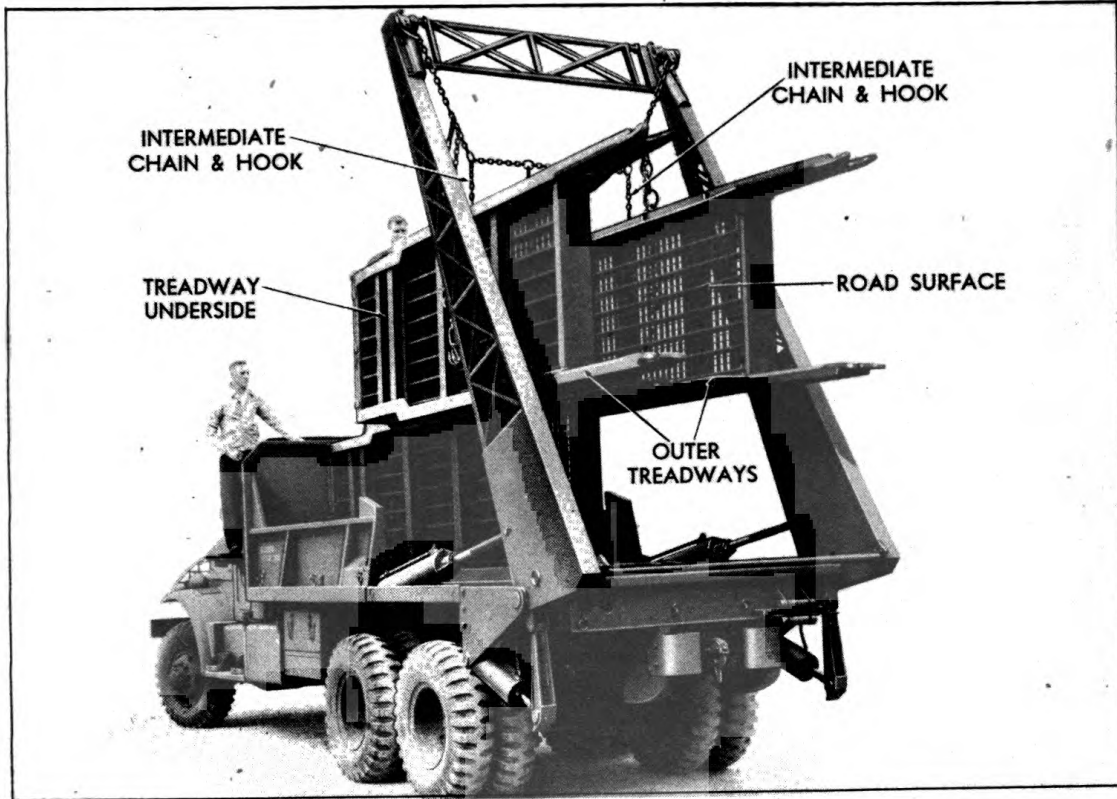
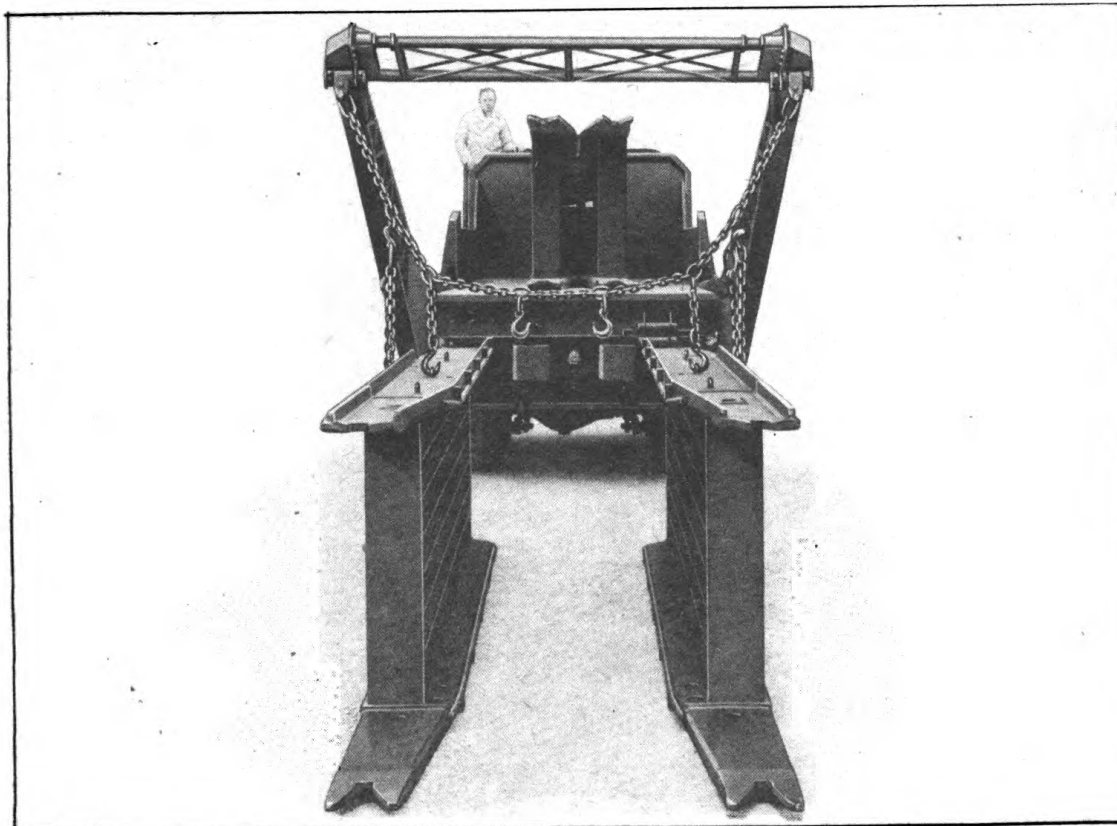
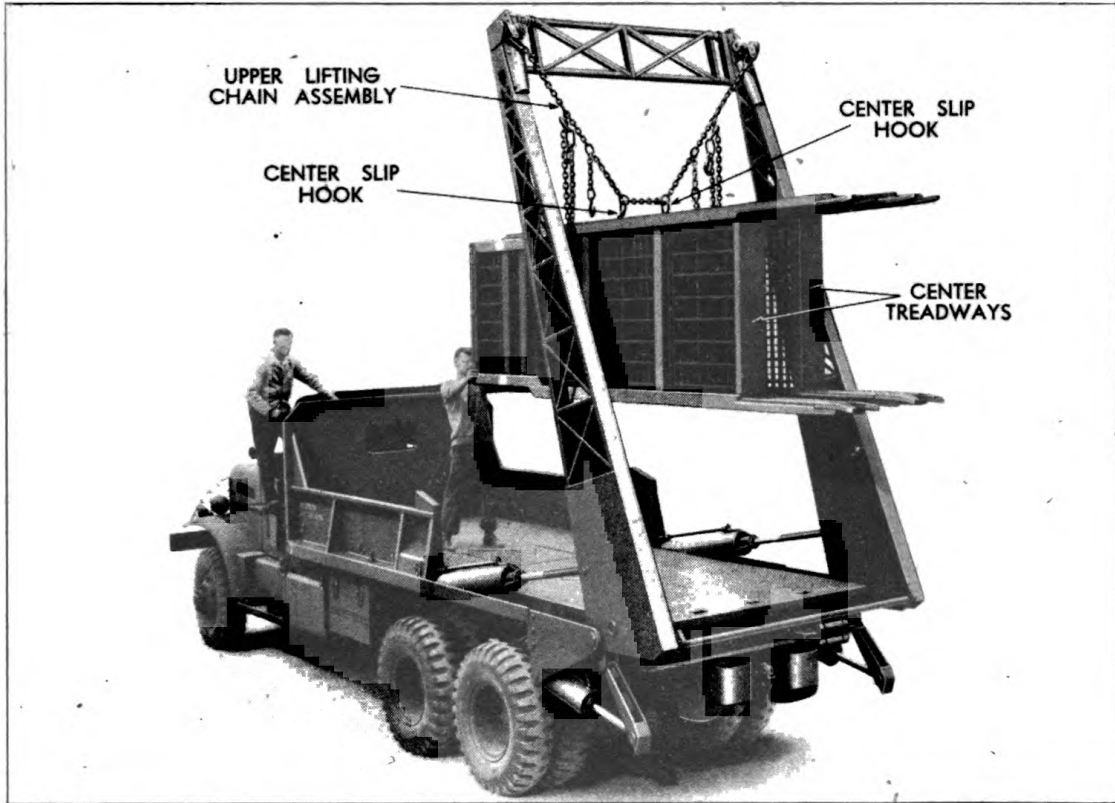

Figure 18. Unloading Two Outer Treadways First. Road Surfaces to Inside
Figure 19. Method of Attaching Slip Hooks to Treadway Eyes for Unloading
Figure 20. Removing Two Center Treadways with Center Slip Hooks
(1) The treadways should be loaded and unloaded two at a time. Unload the outer two treadways first, with the road surfaces toward each other as shown in Figure 18. Use the slip hooks on the intermediate length chain of the upper cross chain assembly. Insert a slip hook in the center eye located on the side surface of each treadway as shown in Figure 19.
(2) The inner two treadways are removed from the truck by using the two center slip hooks on the upper cross chain assembly. See Figure 20. The slip hooks are inserted in the center eye on the side of each treadway.
(2) The first two treadways to be loaded should be moved to the extreme center in two operations as follows. First, attach the intermediate slip hooks to the center eyes after the treadways are standing on edge. Raise the boom and they will swing to the center. Secondly, attach the center slip hooks to the eyes and raise the treadways into place on the truck, Figure 20.
(3) Handle the second pair of treadways as in step (1) above, but load them into the truck when the intermediate slip hooks are attached. See Figure 18. Raise the treadways into place on the truck, Figure 20.